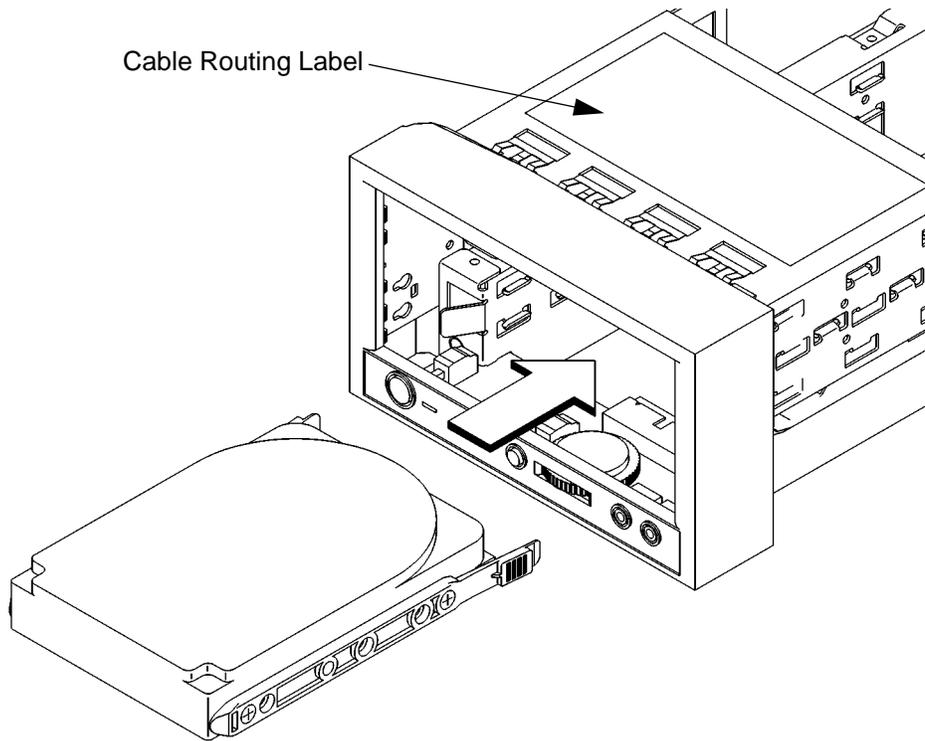

Figure 33
- 2 Reach into the storage bay and locate the power and data cables for the disk drive. Refer to the cable routing label on the storage tray. See Figure 33.
- 4 From the front of the storage tray, line up the disk slides on the hard disk drive with the position 1 slots in the storage tray chassis and slide it into place, as shown in Figure 33.